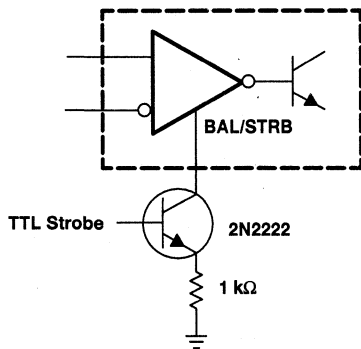

Figure 13. Strobging
6. The strobe should not be shorted to ground; it should be current driven at -3 mA to -5 mA (see Figures 13 and 27).